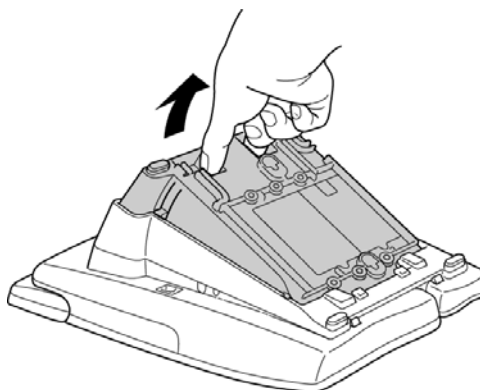

Figure 4-16: Raising the Height on the Dterm Series i Multiline Terminal
2. Grasp in the middle of the hollow spaces at the top and pull up until the retaining tabs click to raise the base plate. Refer to *Figure 4-16: Raising the Height on the Dterm Series i Multiline Terminal*.